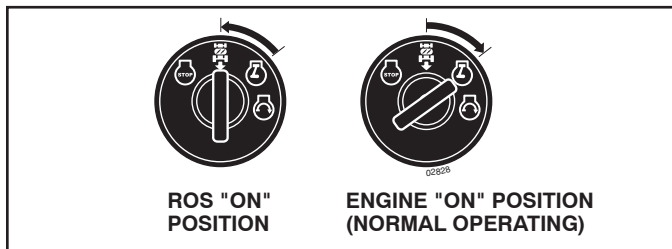

Fig. 23
### USING THE REVERSE OPERATION SYSTEM (See Fig. 23)
- When mowing large areas, start by turning to the right so that clippings will discharge away from shrubs, fences, driveways, etc. After one or two rounds, mow in the opposite direction making left hand turns until finished (See Fig. 23).